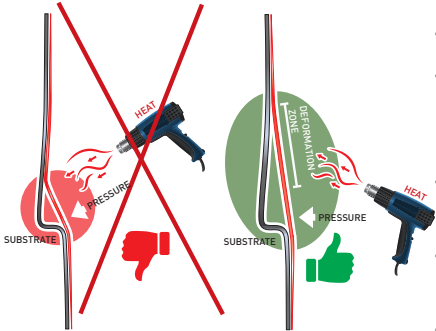

Figure 06
- Apply the stretched vinyl over the substrate so as to have it stick only to the peaks of the undulation. (FIG. 06)